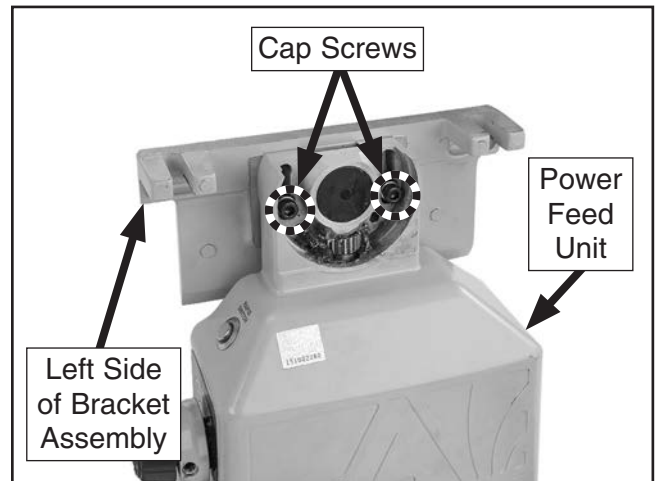

Figure 23. Left side of bracket assembly mounted to power feed unit.
9. Install left side of bracket assembly onto X-axis power feed unit with (2) M6-1 x 25 cap screws and (2) 6mm flat washers (see **Figure 23**). Do not fully tighten cap screws.